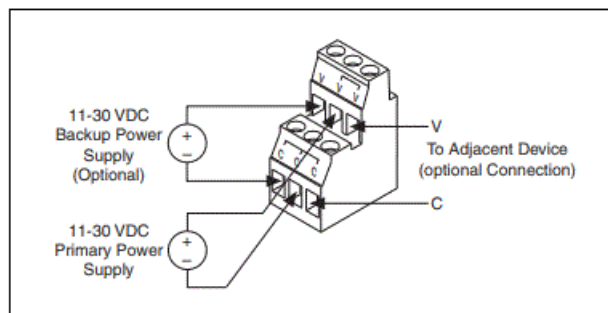

Figure 8. FBUS-HSE/H1 Power Connector Pinout
7. Connect the primary 11–30 VDC power supply to the center V and C pair with the positive and negative wires on your power cable in the V and C terminals, respectively. You can connect an optional backup power supply to the left V and C pair. The power connector is a 6-pin screw terminal power connector whose pinout is shown in Figure 8.